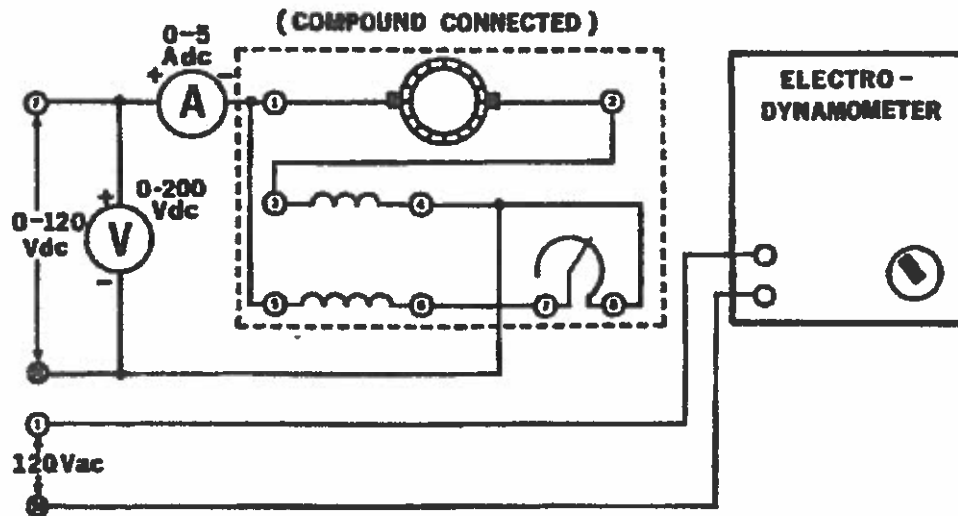

Figure 26-2.
4. Connect the shunt field, in series with the rheostat, to terminals 1 and 4 as shown in Figure 26-2.